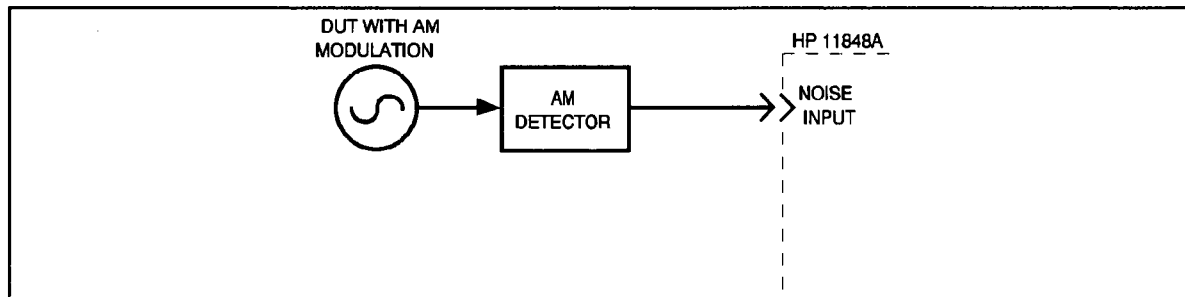

Figure 3-8. AM Noise Measurement Setup
1. Connect circuit as shown in figure 3-8, and tighten all connections.